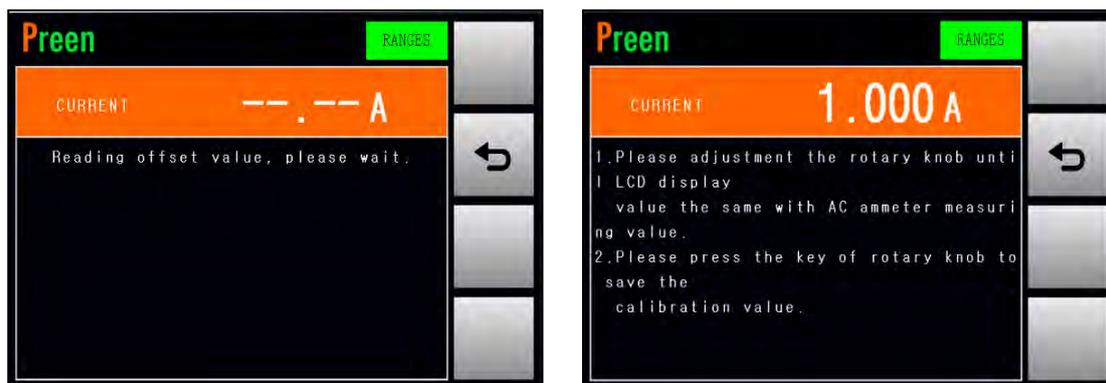

Figure 6.16 Enable the calibration of the LO-Range RMS current
3. Press the output & reset button on the front panel to enable the calibration of the LO-Range RMS current (refer to Figure 6.16), and then the product will start to output the voltage which is closed to 100V.